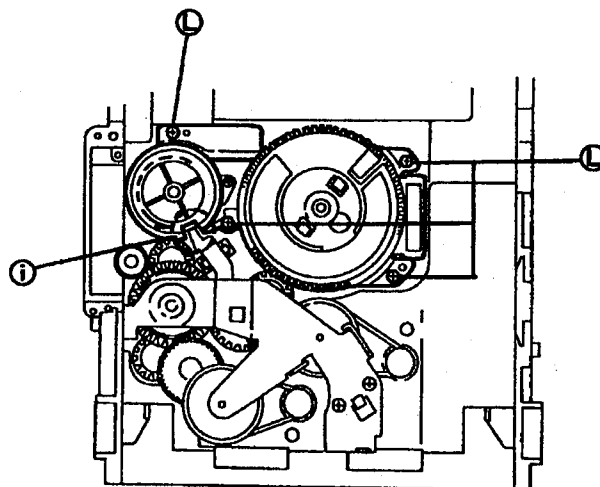

Fig. 36
4. Rotate the Cam gear L so that the select gear's ① is positioned as shown in Fig.36.
5. Remove 4 screws ② securing the cam unit which includes the cam gear L and Cam R1, R2 ass'y. (See Fig 36.)